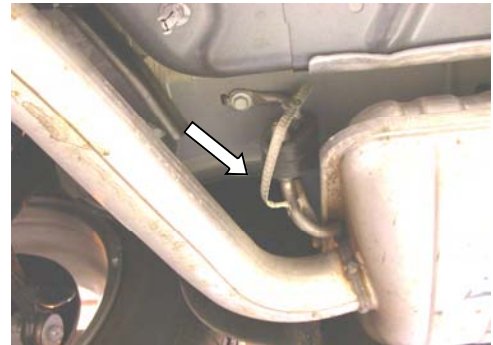

Figure 1
1. Unclip and remove the ground strap shown in figure 1 located on the passenger side rear muffler.